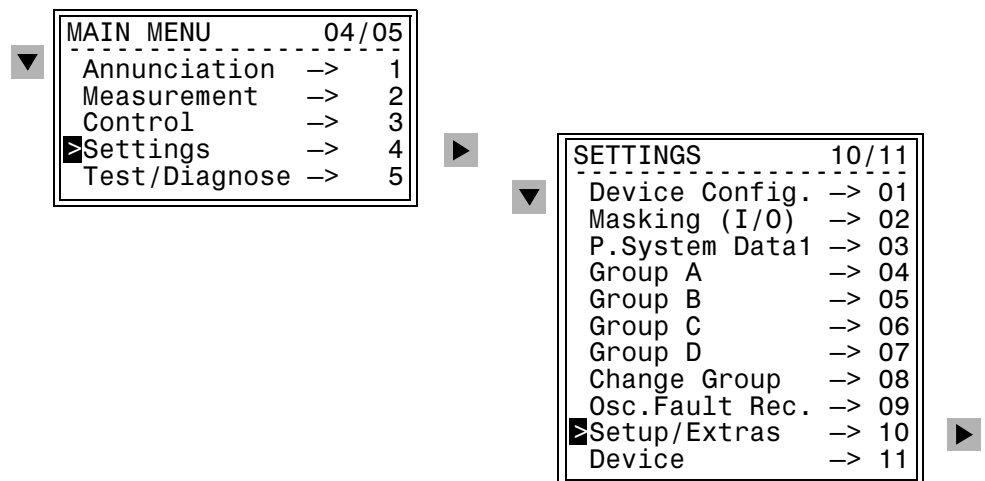

Figure 3-1 Sub-menu **SETTINGS**
- ❑ Using the ▼ key, select the menu item **Settings**, and move to the device settings using the ▶ key. The **SETTINGS** menu appears, as shown in Figure 3-1.